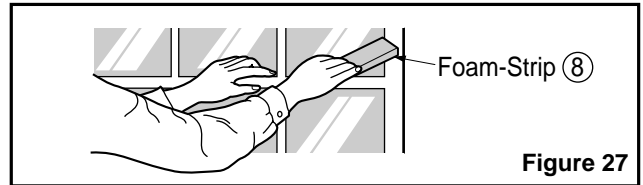

Figure 27
11. Cut the Foam-Strip ⑧ to the proper length and insert between the upper and lower window sash. (See Fig. 27)